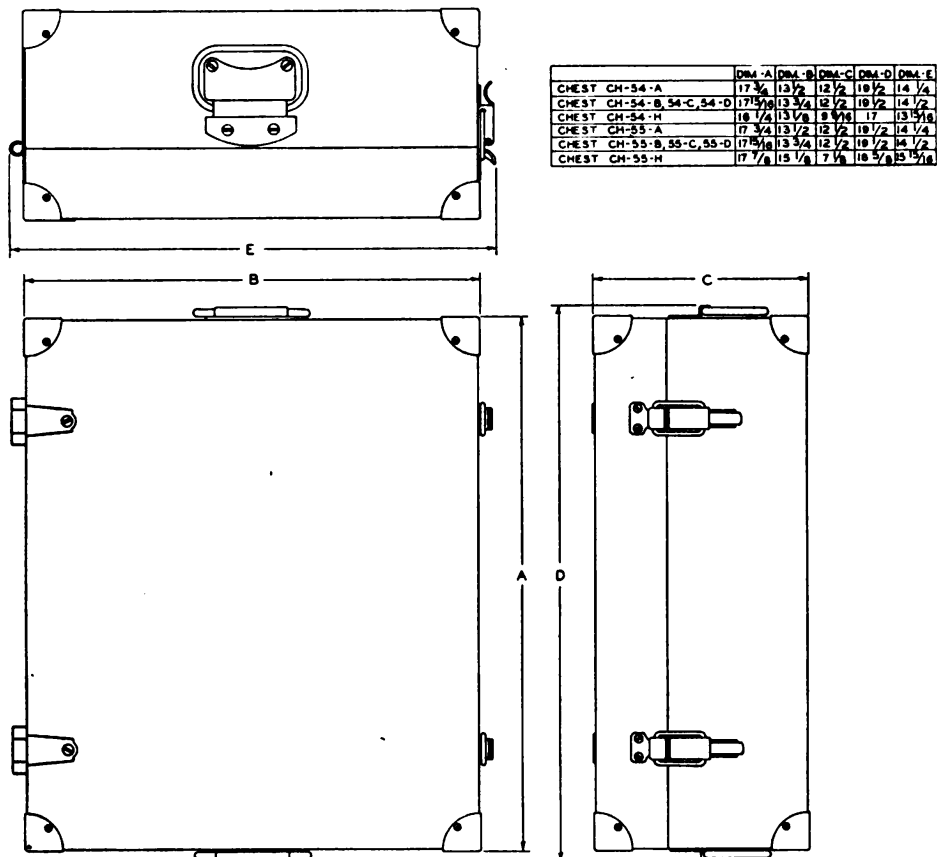

Fig. 2—Chests CH-54(*) and CH-55(*)—outline dimensions
b. Chest CH-54- ()* houses Control Unit RM-13- (*). It is made of wood and finished in olive drab. Outline dimensions of two types of chests are shown in figure 2. A wooden partition in the chest provides a support for the handset cradle. Pads in the chest and inside the cover hold the unit firmly in place during transportation. The chest is fitted with one or two pull-down catches on the front and a metal carrying handle at each end. A web strap serves as a handle for lifting or lowering the control unit from or into the chest.
c. Chest CH-55- ()* houses the parts required in the operation of Remote Control Equipment RC-47- (*). It is made of wood and finished in olive drab. Outline dimensions of the two types of chests are shown in figure 2. One section of the chest is divided into nine compartments for holding six headsets and three telegraph keys. Retaining blocks and cleats provide mounting space for four batteries and two vacuum tubes. The microphone compartment accommodates two microphones. The case is fitted with two pull-down catches on the front and a metal carrying handle at each end.